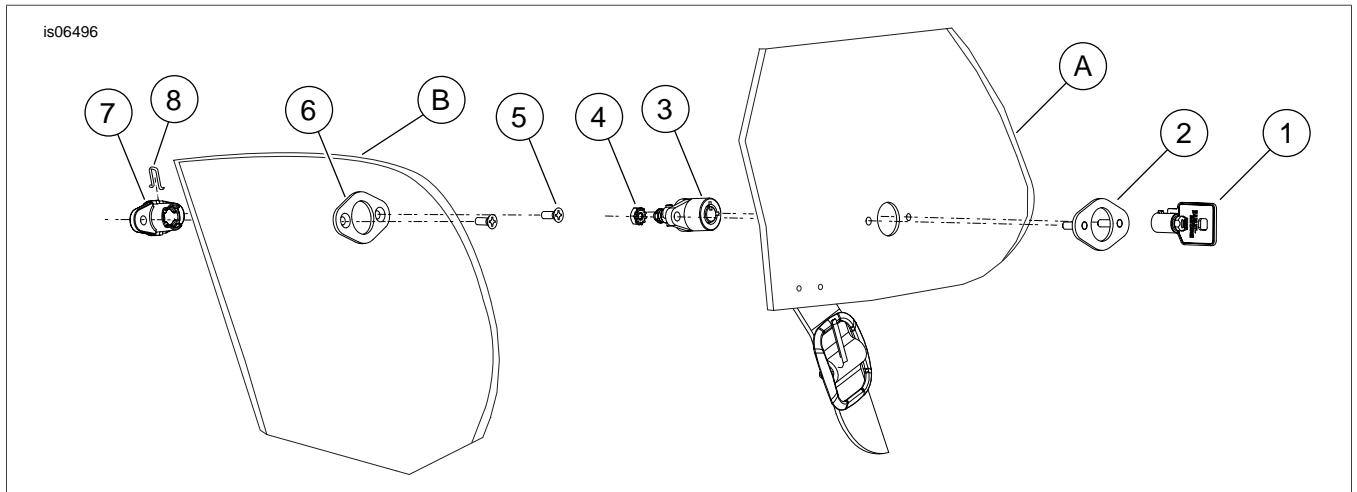

Figure 5. Service Parts: Universal Saddlebag Lock Kit
See Figure 5 and Table 1.
2. See Figure 5 and Table 1. Before drilling holes, use the lock bezel (6) as a guide to determine a suitable location on the bag. Locate all holes a minimum of 0.25 inches from any material edge.
10. Install lock receiver (7) and bezel (6) to tub as shown in Figure 5. Use screws (5) to fasten the lock receiver and bezel. Tighten screws to 9-13 **in-lbs** (1.0-1.5 Nm).
11. See Figure 5. Install lock cylinder (3) to the inside of lid and secure with the lock bezel (2) and keps nuts (4). Tighten nuts to 9-13 **in-lbs** (1.0-1.5 Nm).